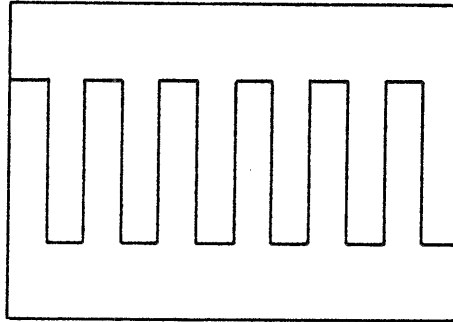

Figure 3
- 5) Set the GND switch of the input circuit in the AC state. A waveform as shown in Figure 3 will be displayed on the CRT screen.